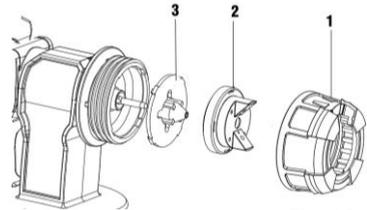

Fig. 16
12. Unscrew the union nut from the spray attachment then remove air cap and nozzle and thoroughly clean all parts (Fig. 16).